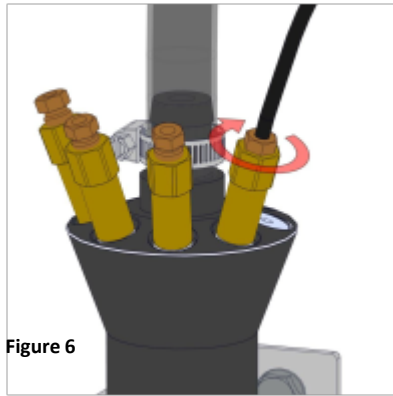

Figure 6
14. Using a 5/16" wrench, snug the line into place by tightening brass fitting on the manifold assembly. See figure 6
13. Using a 5/16" wrench, snug the line into place by tightening brass fitting on the manifold assembly. See figure 6